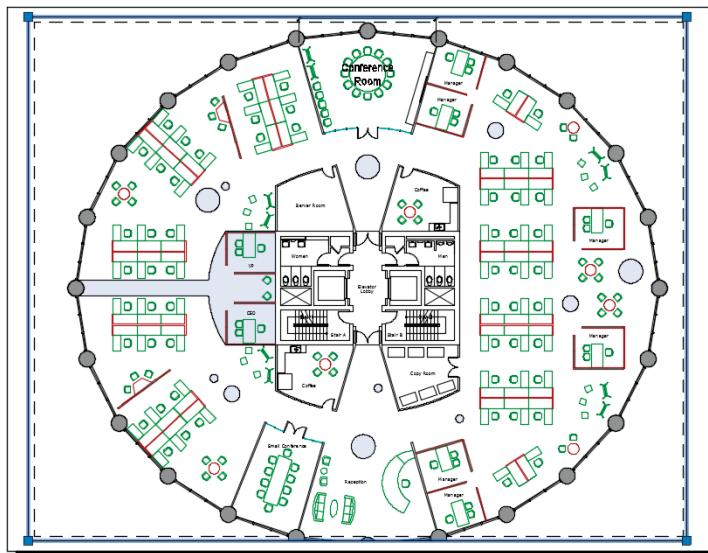

FIGURE 13.16 Adjusting the viewport in an attempt to display the entire floor plan at 1/16" scale (or 1:200 in metric)
5. Viewport frames exist in paper space only. Click the single viewport frame to select it. Select the upper-right grip and move it upward and to the right until it is close to the upper-right corner of the paper but inside the plot device limits. Click the lower-left grip, and move it to the lower-left corner inside the device limits (see Figure 13.16). Press Esc to deselect the viewport.